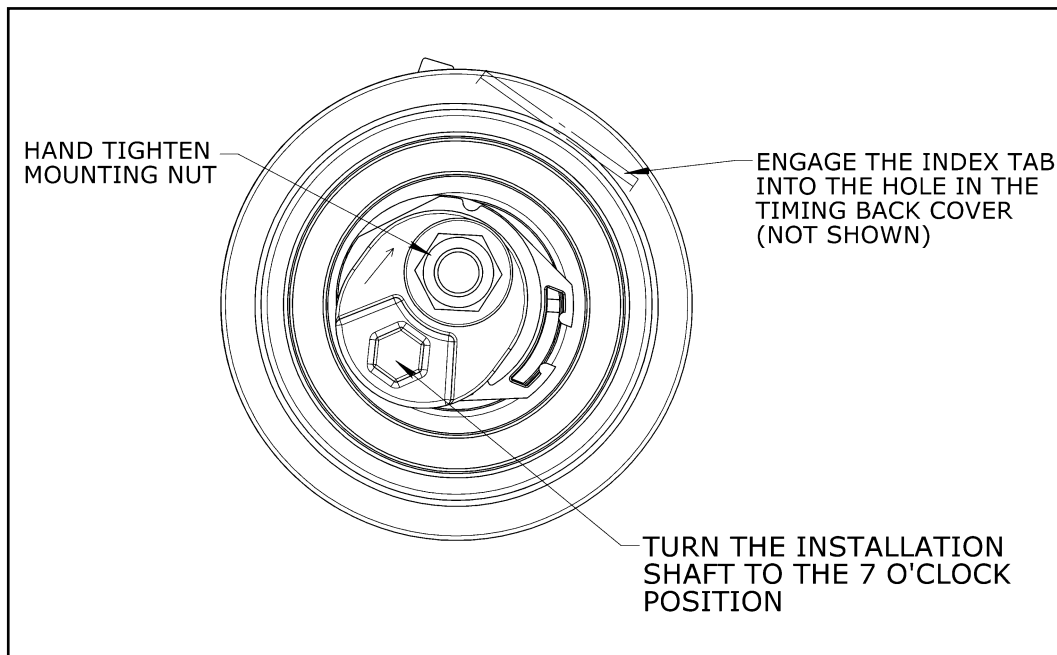

Figure 3: Initial setup of the Timing Belt Tensioner
6. Rotate the installation shaft on the tensioner using an 8mm Allen Key to the approximate "7 O'clock position" (Fig. 3). This will maximize the belt clearance for ease of installation. Hand tighten (lightly) the mounting nut on the stud.